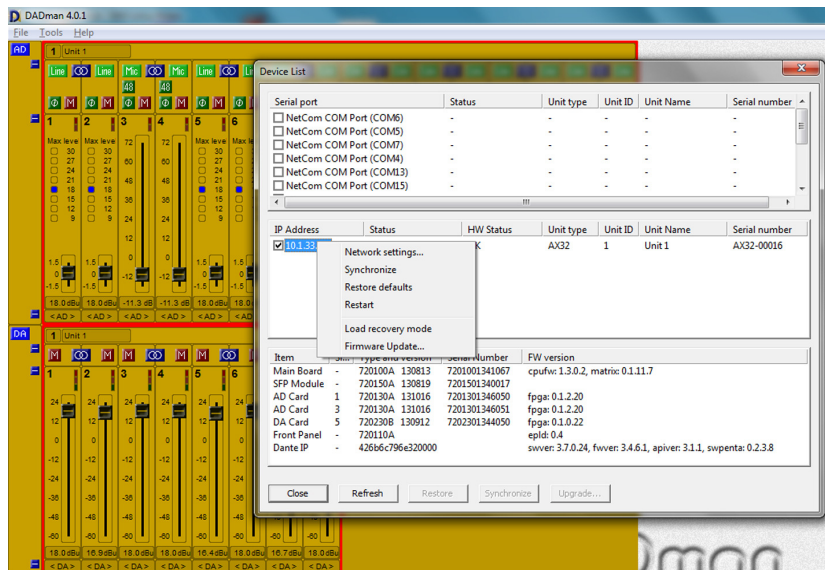

Figure 1, DADman Device list in Windows
5. In the top menu bar select Tools/Device List and apply 'Refresh' when using a Windows PC, in order to discover the AX32 on the network. On MAC-OSX 'Action' is used to select 'Refresh IP list' The Device List window for Windows and MAC-OSX is show in figure 1.